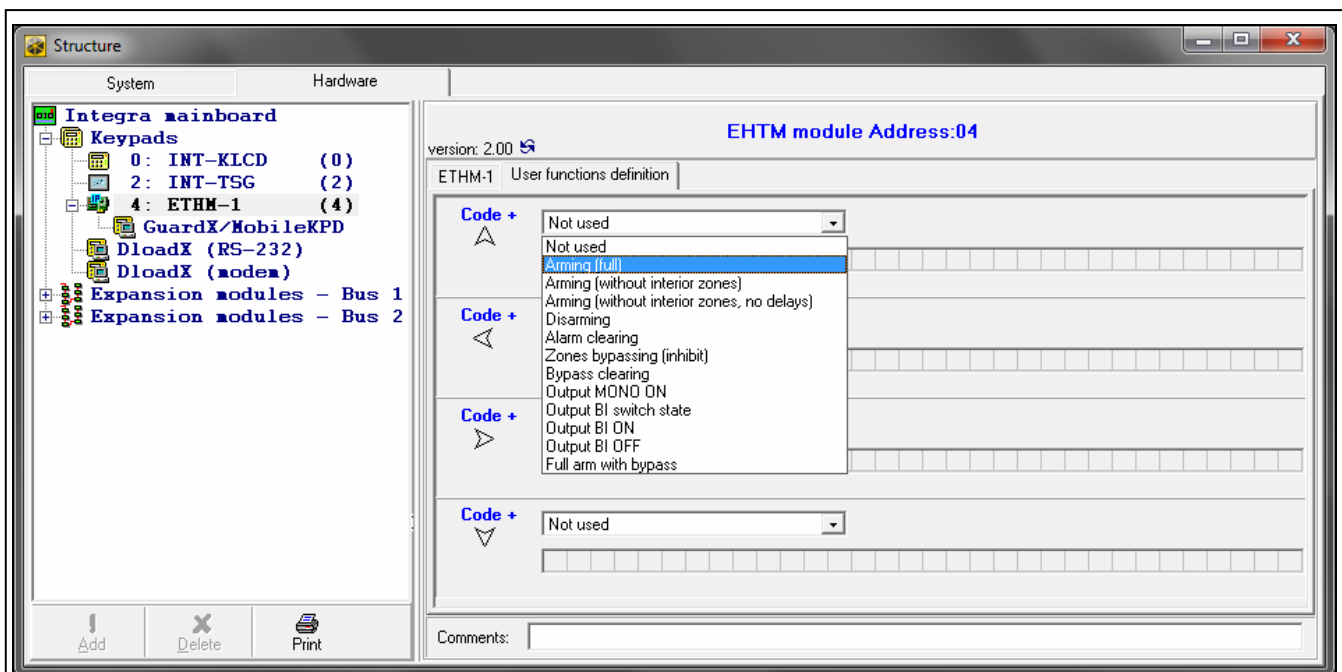

Fig. 8. Program DLOADX: "User functions definition" tab.
- DLOADX program: →"Structure" window →"Hardware" tab →"Keypads" branch →[*module name*] →"User functions definition" tab (Fig. 8).